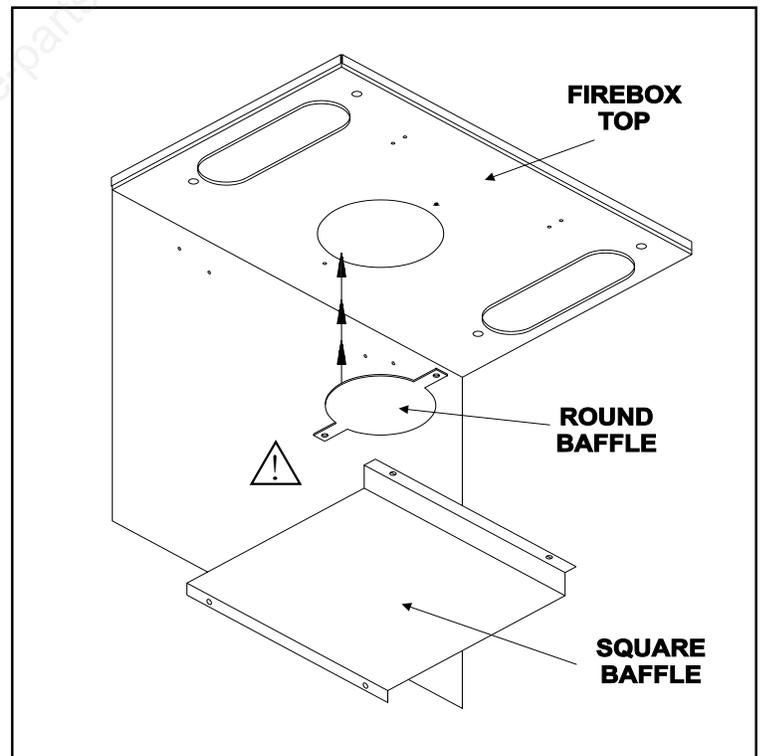

Figure 6
4. Disassemble the square baffle by unfastening four screws located inside top of the firebox. See Figure 6.